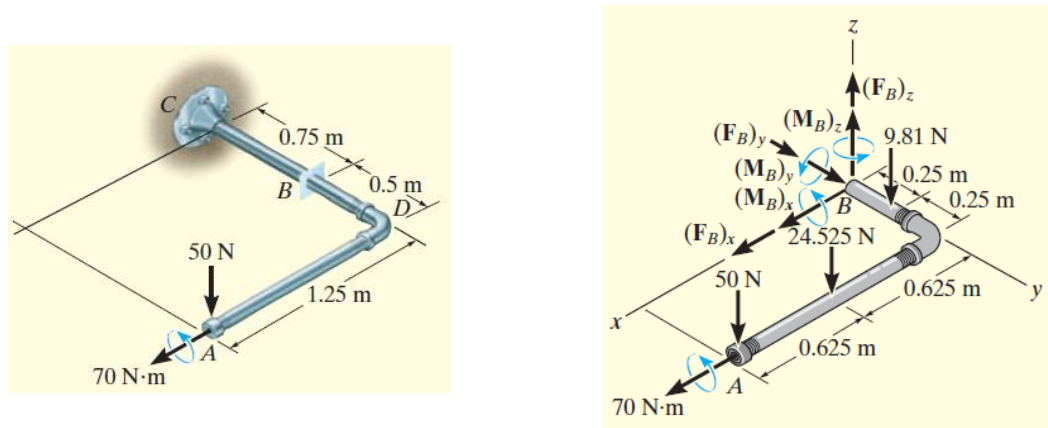

Fig. 4
4. Determine the resultant internal loadings acting on the cross section at B of the pipe shown in Fig. 4. The pipe has a mass of 2 kg/m and is subjected to both a vertical force of 50 N and a couple moment of 70 N·m at its end A. It is fixed to the wall at C.